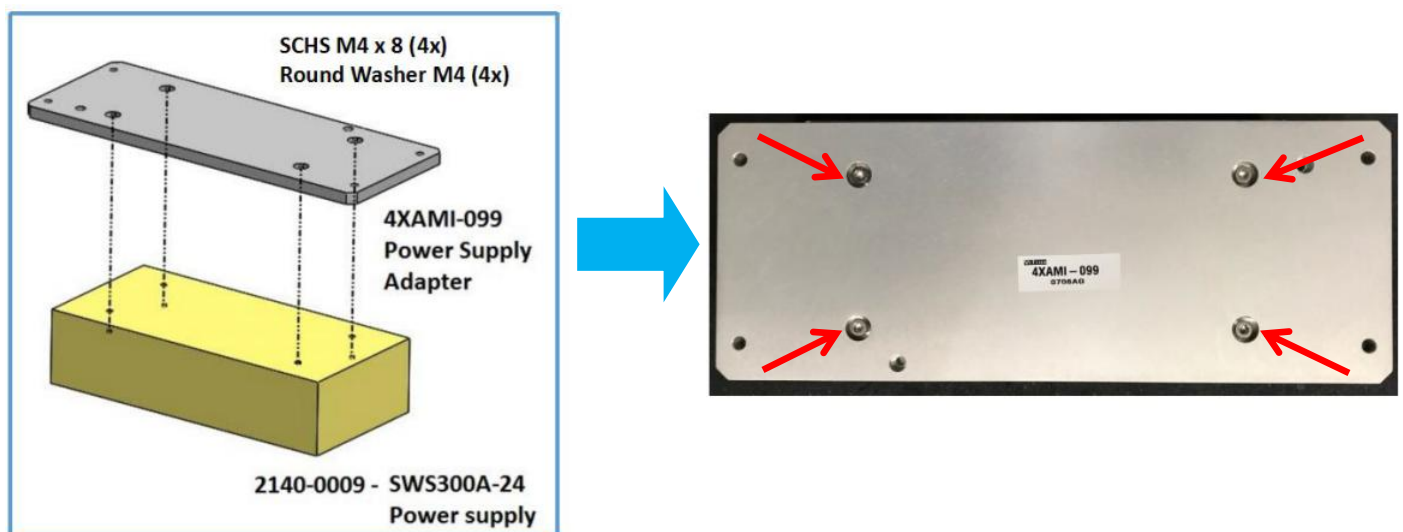

Figure 22 Trigger Board Adapter Assembly
5. Flip the Power Supply Adapter. While attach New Trigger Board Supply to Adapter, tighten below fastening kit as below Figure 22